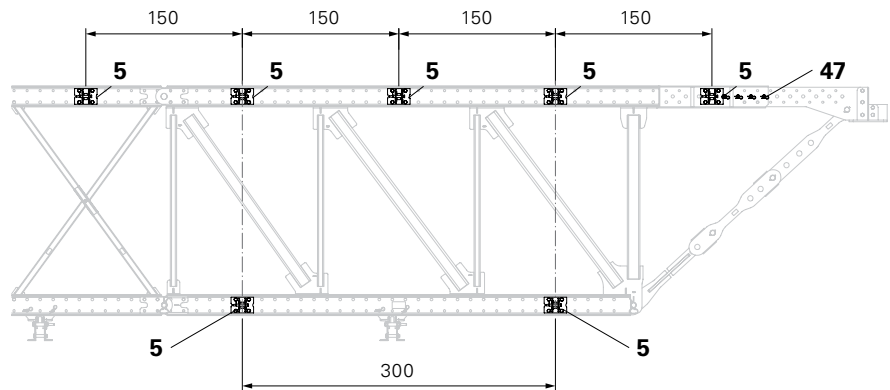

Fig. A3.01
1. Position Coupling Shoe (3) directly next to the fitting pin (47).
2. Fix with bolt (52) and nut (62).
4. Mount Coupling Shoes (5) in the bottom chord in the same way. The spacing is 300 cm in each case. (Fig. A3.01 + A3.03)